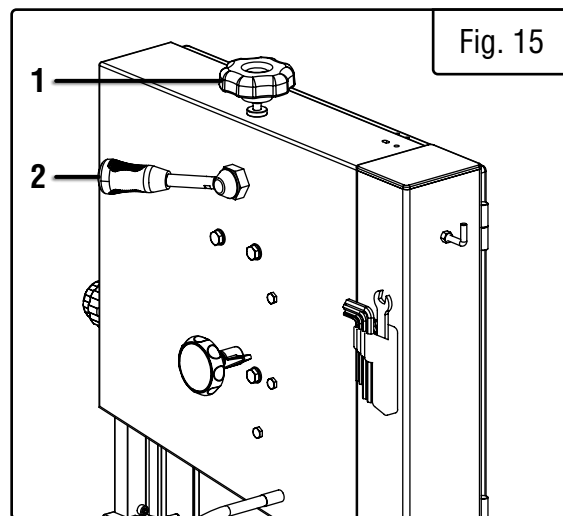

Fig. 15
1. Raise the upper blade guide fully using the saw blade tension knob located on the top of the machine (Fig. 15 - 1). Take the blade width into consideration during the adjustment.
5. After achieving the desired tension, the tension release lever can be used to easily loosen and tighten the spindles without changing the amount of tension (Fig. 15 - 2).